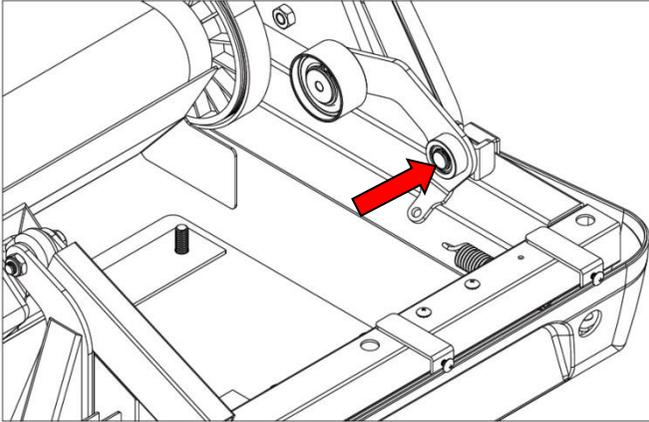

Figure 4.8.1
4.8.2 As shown in Figure 4.8.1, remove the press pulley by removing the C with the tool.